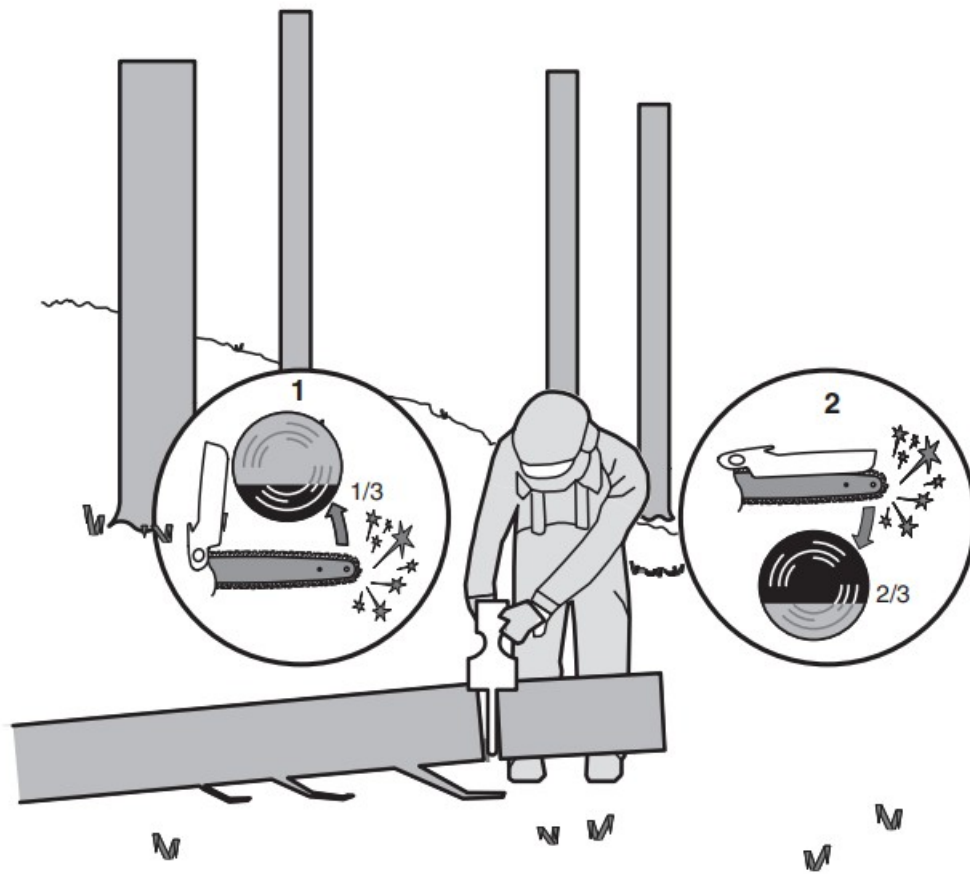

Figure 3
When the log is supported on one end, as illustrated in Figure 3, cut 1/3 the diameter from the underside (underbuck) (1). Then make the finished cut by overbucking (2) to meet the first cut.